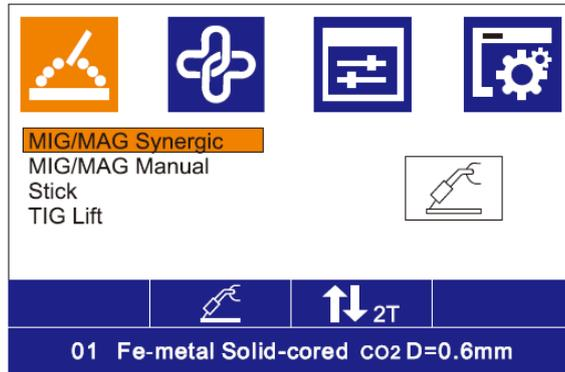

Fig. 1
2) In the function selection interface, rotate L Knob to select the MIG/MAG Manual welding method and press down it for confirmation as shown in Fig. 1;